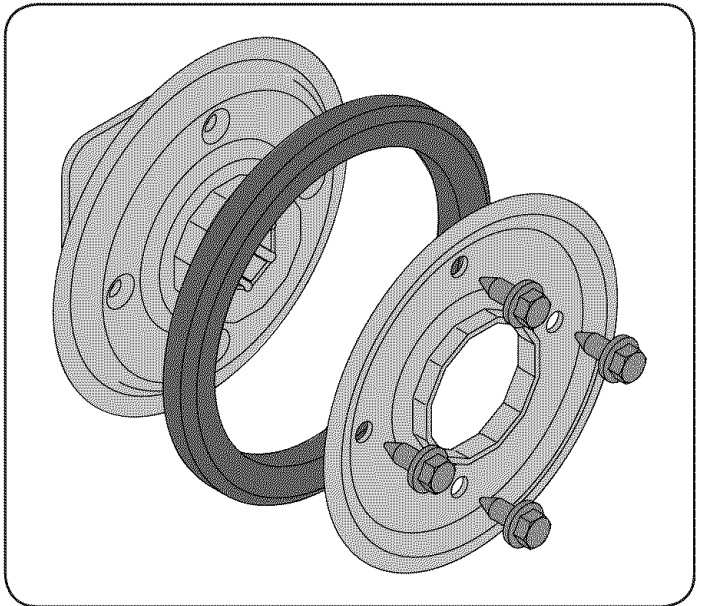

Figure 31
1. Remove the four screws which secure the friction wheel's side plates together. See Figure 31.